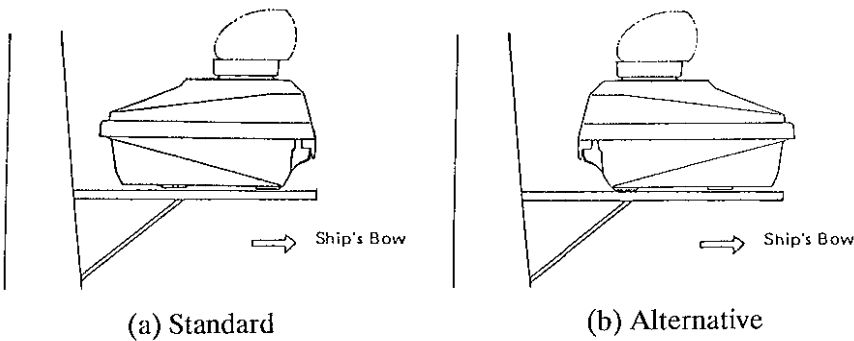

Fig.6-1. Mounting of Scanner Unit
- 1. Fig.6-1(a), the scanner outline drawing on page D-2 and the scanner platform template supplied as an installation material show the standard mounting method, i.e., the scanner upper housing ("lid") opens toward the bow. However, the scanner unit may be mounted so the scanner upper housing opens toward the stern. See Fig.6-1(b). No modifications are required for the former method, however some modification is required for the latter. Refer to page 6-5. In both cases, adjust relative bearing alignment (shown on page 6-9).
- 4. Place the scanner housing on the chosen position, and orient it as shown in Fig.6-1(a), or (b).